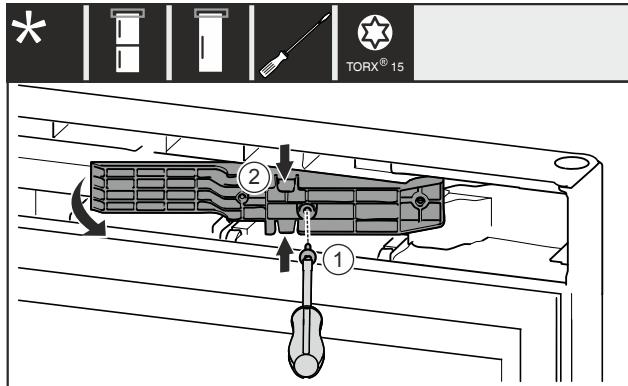

Fig. 14 *
- Remove the screw *Fig. 14 (1)*.*
- Gently press the top and bottom of the adapter piece *Fig. 14 (2)* together and pull it out.*